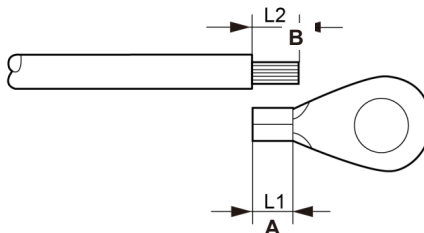

Figure 4.11 External Grounding Conductor Terminal
3. Strip the ground cable insulation to a suitable length. (see Figure 4.11)